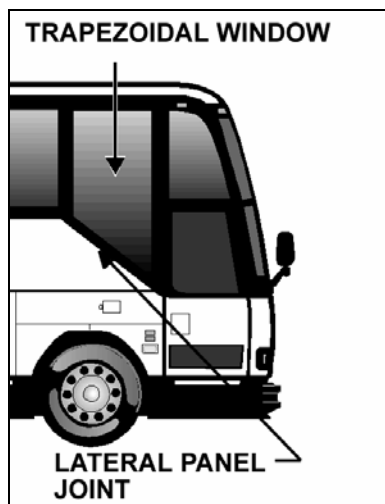

FIGURE 3: WINDOW JOINT
1. Apply masking tape on each side of joint in order to protect vehicle finish (refer to fig. 3).